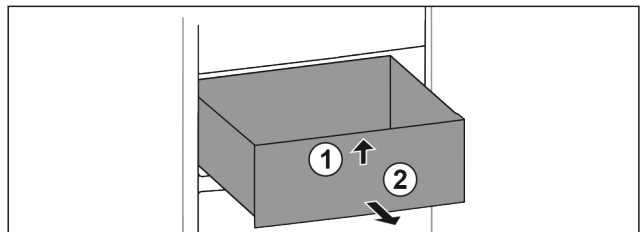

Fig. 98
- ▶ Lift up drawer at the front. Fig. 98 (1)
- ▶ Remove drawer to the front. Fig. 98 (2)